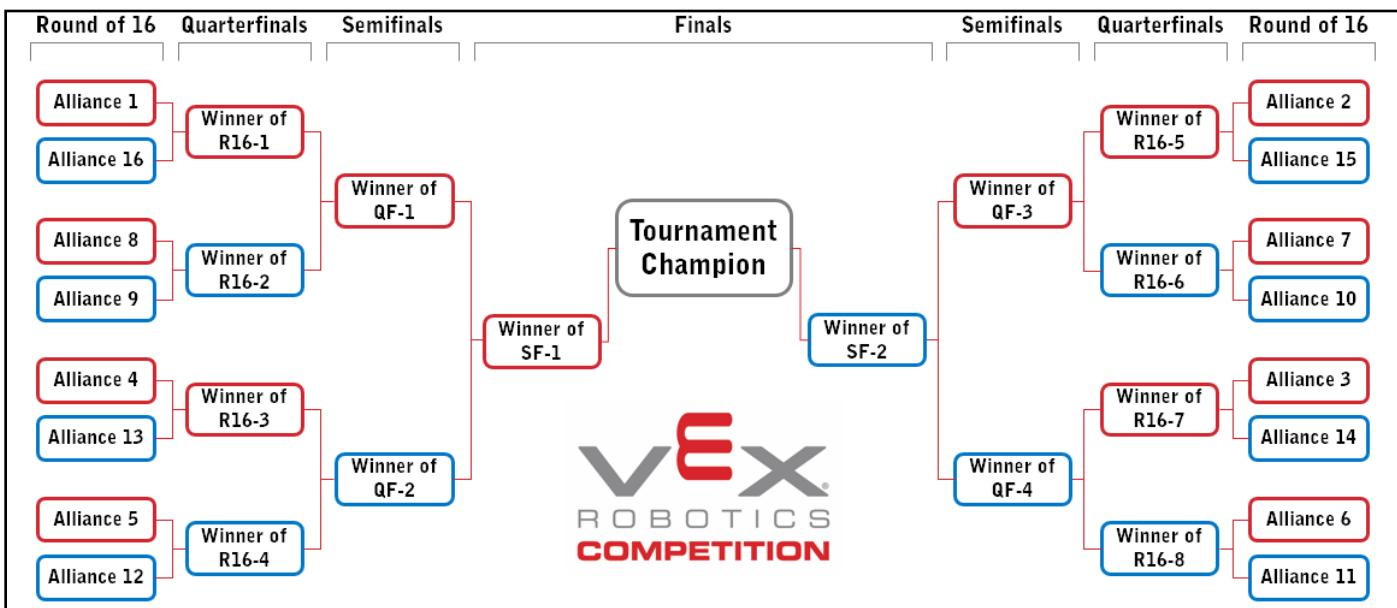

Figure T19-1: A 16-Alliance bracket
<T19> **Elimination Matches follow the Elimination Bracket.** A sixteen (16) Alliance bracket plays as shown in Figure T19-1: